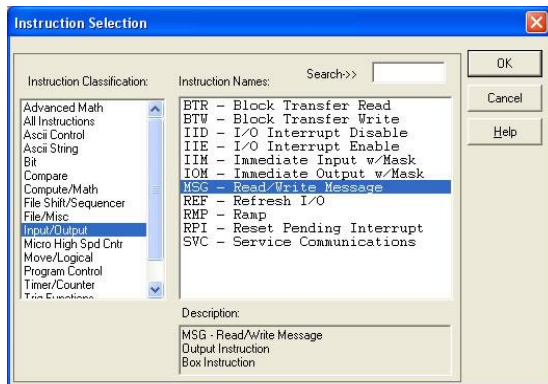

Figure 52: MSG Instruction Selection
- Select the “MSG” instruction from the “Input/Output” classification, then click OK. Refer to Figure 52.